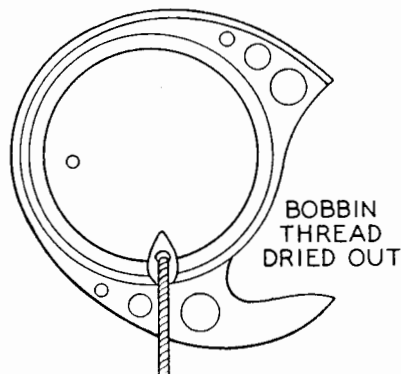

Fig. 289. Bobbin.
5. Bobbin thread may be dried out (Fig. 289).